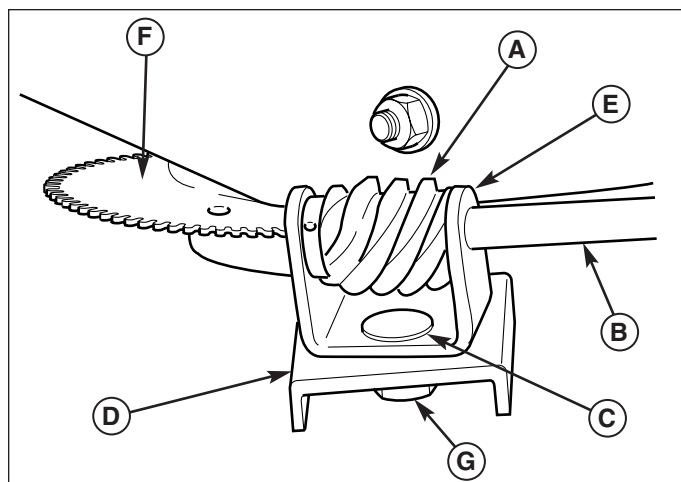

Figure 21. Discharge Control
If the discharge chute is difficult to operate, first lubricate the pinion gear (A, Figure 21) and ring gear (F). If it is still difficult to operate, adjust as follows: